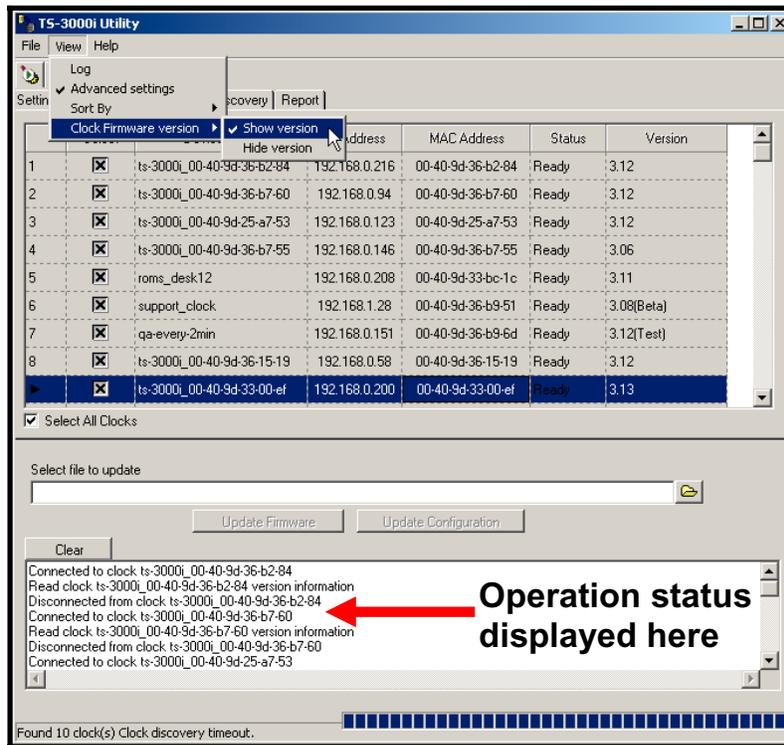

Figure 5-14: Show Firmware Version
- **Clock Firmware version** – Use this function (see Figure 5-14) to show the clock firmware version in the list of discovered TS-3000i clocks. If left on Hide, the list will be generated without listing the version for the discovered clocks.